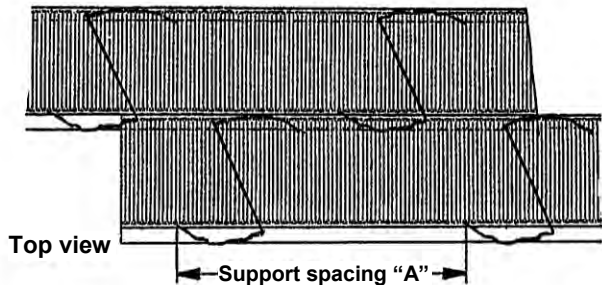

Fig. 2
3. Take first plank (shortest) and turn upside down. Place "Z" floor support into plank. See Fig. 2. Make sure all upper tabs of support are between channels of floor plank. Place supports at spacing "A" determined in Step 1.